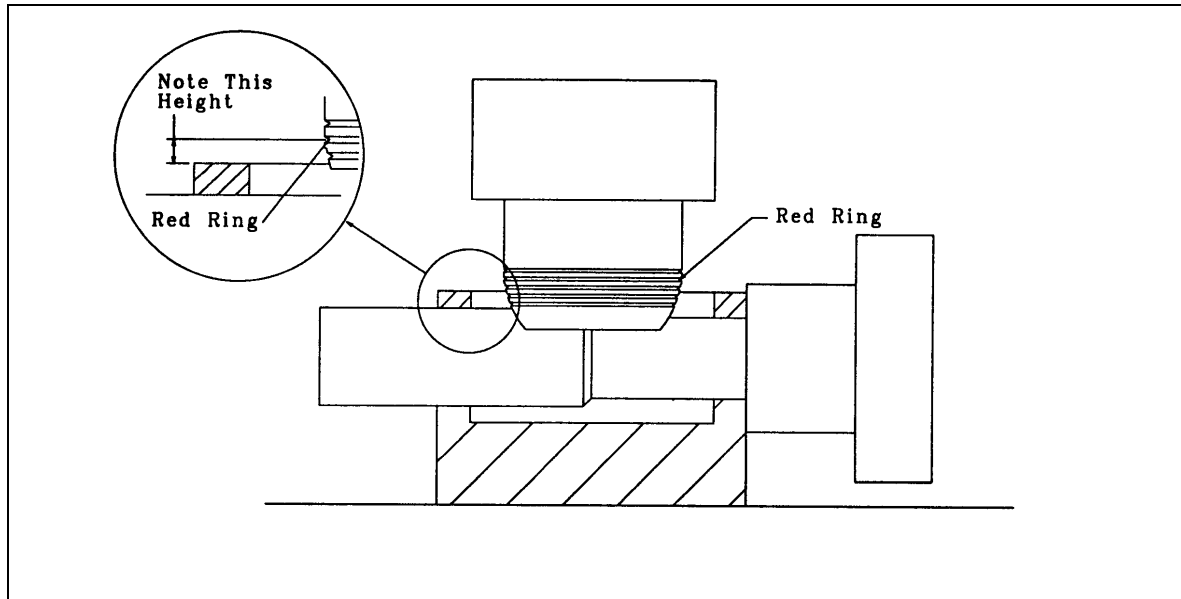

Figure 3-2 V-Post
42. The brass V-posts on the bottom of the tripod are marked with concentric rings 1 mm apart, the red ring being 0 (see Figure 3-2). Estimate the distance the tripod has moved upward (+) or downward (-) and add this to the value read with the scale. If our setup procedure has been followed correctly, the dropping chamber will be 1 ring (1 mm) above the zero position. Record this value (the Superspring reference height added to the vertical distance indicated by the brass V-posts in cm) in the system check log as the reference height. It must be entered in the FG5COMND.DAT file before beginning observations. Consult the FG5 Software Manual for instructions.